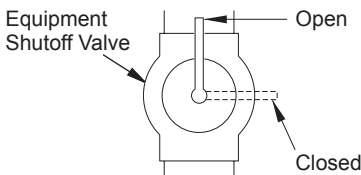

Figure 16 - Equipment Shutoff Valve
1. Close equipment shutoff valve (see Figure 16).
1. Open equipment shutoff valve (see Figure 16).